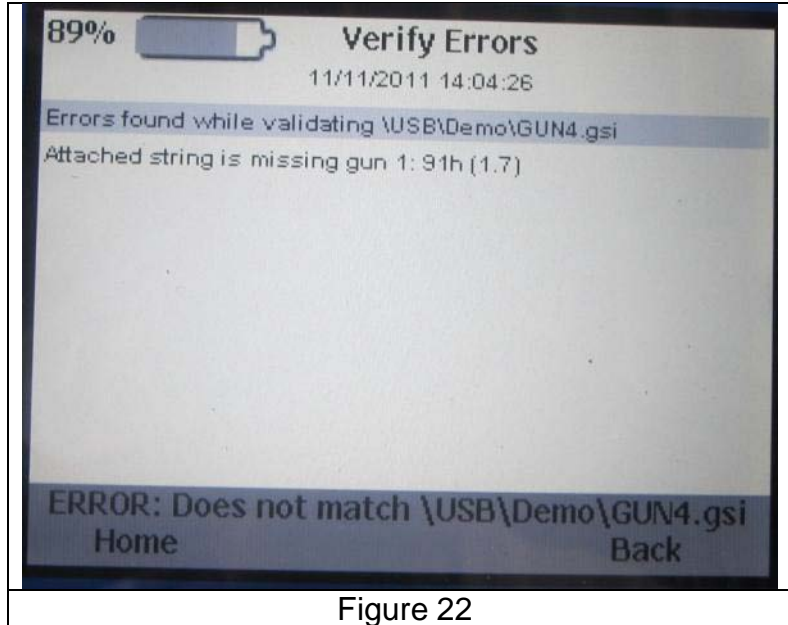

Figure 22
- In the event that an error was detected during a Compare, the results of an error will display as shown in Figure 22.